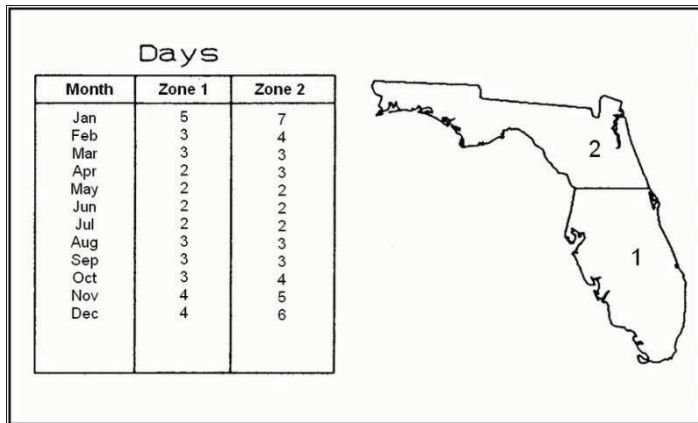

Figure 4. Number of days soil-water stored in the root system will last before irrigation or rain is required.
- *Estimations based on climatic records.* Past history of climate can be used to estimate how often irrigation should be applied to turf. Figure 4 shows the expected number of days that soil-water will last for a typical Florida sandy soil that can hold 1 inch of water per foot of soil and is irrigated to a depth of one foot. If your root depth and soil-water holding capacity are different, multiply the number of days in Figure 4 by the value of your root depth and then by the value of your soil-water holding capacity.
Irrigate by demand. Apply water only when the soil has been depleted. Always apply only the amount of water that is required to refill the soil. Change the frequency with which you irrigate and not the amount of water applied. As a guideline use the irrigation intervals in Figure 4. Keep track of the time since the last rain or irrigation to determine when the next irrigation is due. (If it is a light rain, you will have to compensate.) Do not apply daily light irrigations (less than 1/4" depth of water). It has been shown that deep irrigations (more than 2/3" depth of water) applied less frequently provide better turf quality.